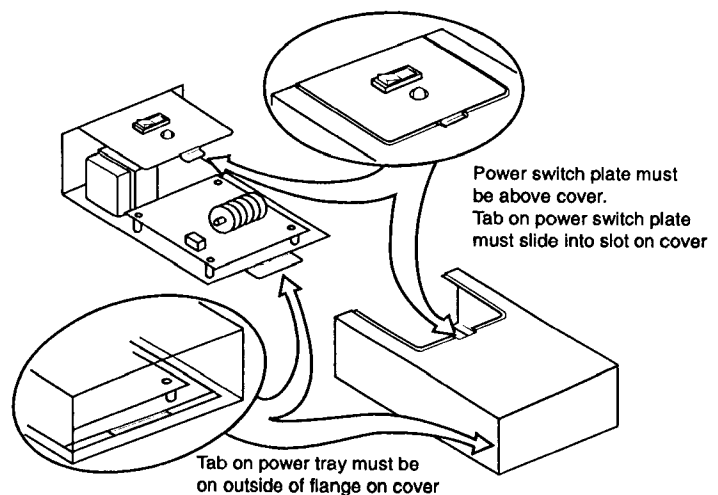

Figure 1. Assembling Power Tray and Cover
5. After replacing a faulty power tray, reassemble the cover and power tray. When reassembling, be sure that power switch plate is on the outside of the cover and the tab on the power switch plate slides into the opening on the cover. Be sure also that tab on bottom of power tray is on the outside of the cover (see fig 1).